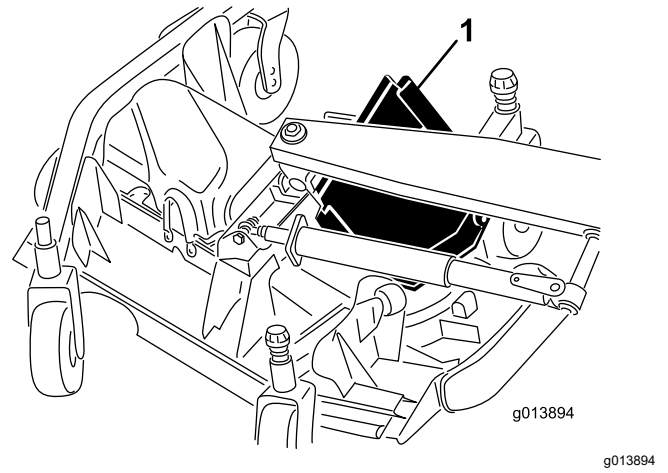

Figure 79
6. Lift the front edge and guide it between the lift arm and the roller to remove it (Figure 79).